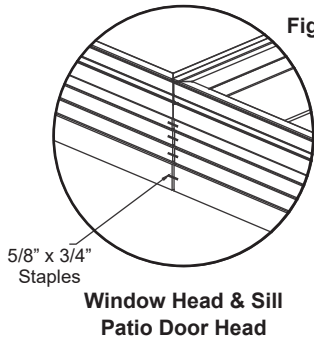

Fig. 3
- Making sure that the units are flush and tight together at the mull, fasten units together at the head and sill with 5/8" x 3/4" staples. For windows, use 4 staples at the sill and head (Figure 3). For patio doors, use 4 staples at the head and 3 staples at the sill (Figures 3 & 4).